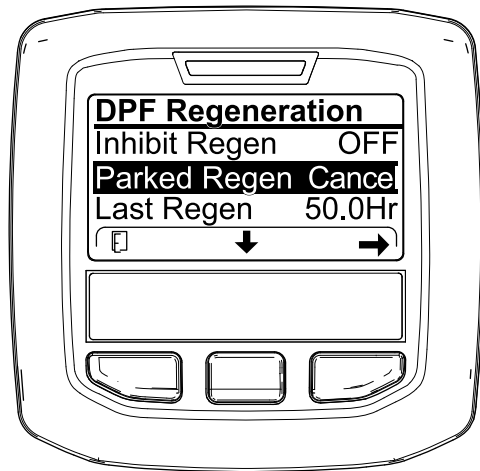
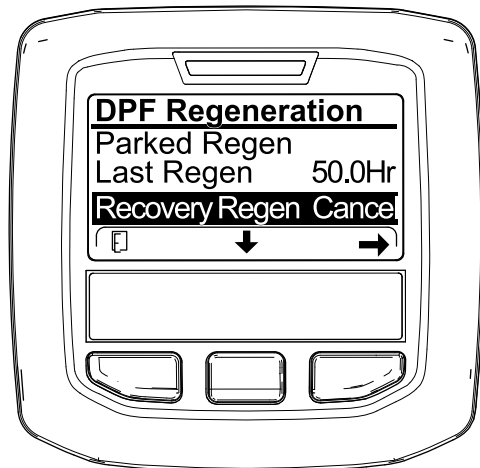

Figure 60
Figure 61
1. Access the DPF Regeneration menu (Figure 60).
2. Press the center button to scroll down to the PARKED REGEN CANCEL (Figure 60) or the RECOVERY REGEN CANCEL option (Figure 61).
3. Press the right button to select the Regen Cancel entry (Figure 60 or Figure 61).